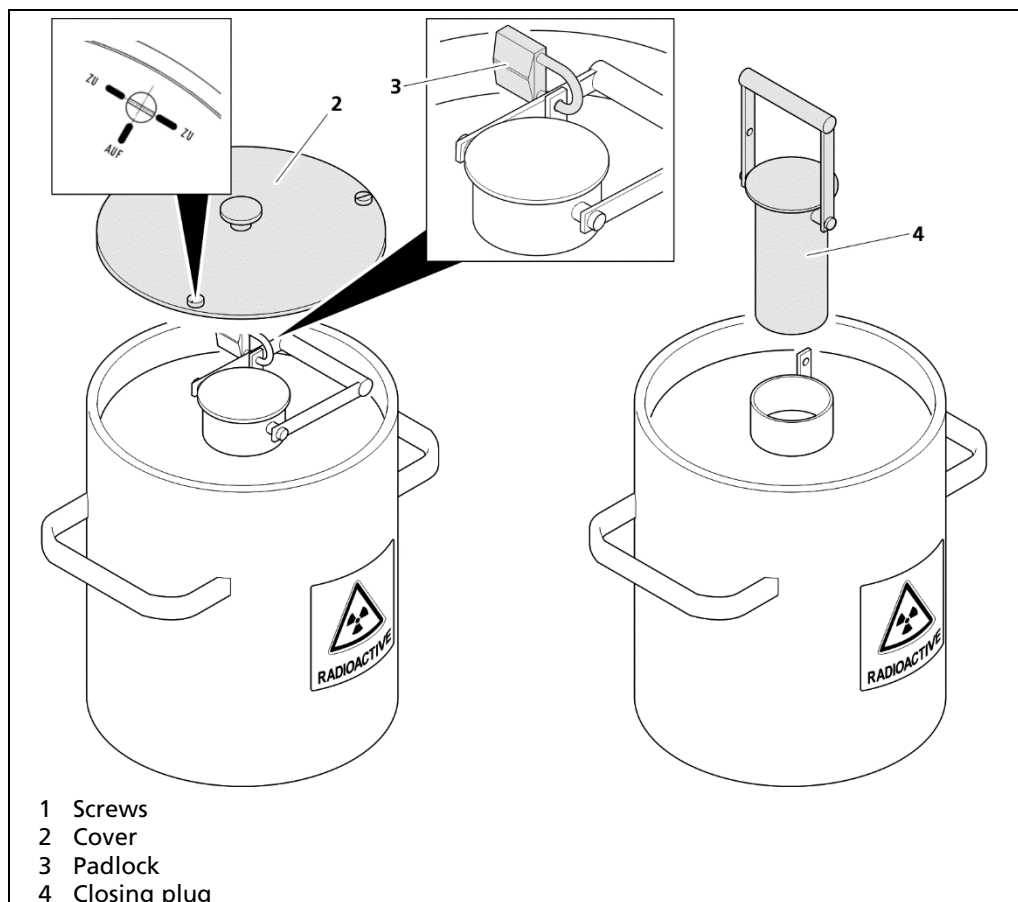

Fig. 7 Open Transport Shield
3. Turn the three slotted screws to the OPEN position (Fig. 7, Item 1) and remove the cover (Fig. 7, Item 2).
4. Remove the padlock (Fig. 7, Item 3).
5. Pull the closing plug (Fig. 7, Item 4) vertically upwards on the lever.